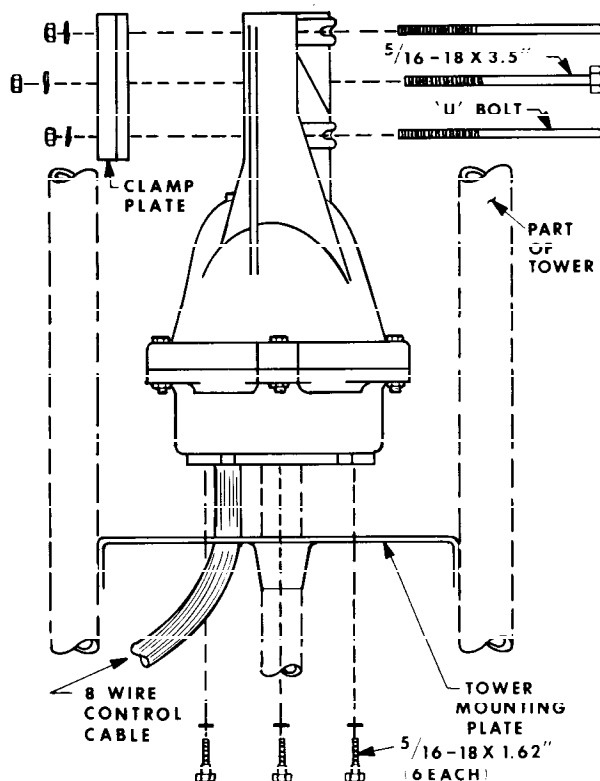

Figure 4
3. The rotator is attached to the tower plate by means of six (6) bolts and lockwashers (see Figure 4). The flat tower plate must be drilled in six (6) places using the template provided with this manual unless the tower plate is already properly drilled.
4. Tighten the six (6) bolts, but not to final tightness. Observe how the rotator turns. It must rotate in such a manner as to turn the mast concentrically to the thrust bearing.
lockwashers through the rotator and clamp plate as shown in Figure 4. The maximum mast diameter that may be used is $2\frac{1}{8}$ " O.D. We recommend $1\frac{1}{2}$ " nominal steel pipe with 1.9" O.D. in standard wall thickness of .145". For stacked arrays or very large beams, we recommend extra heavy-duty wall thickness of .200". Both steel pipes can be purchased to specification ASTM-A120.
7. Tighten the six (6) bolts carefully—to approximately 175 inch-pounds of torque.
8. Drill through the antenna mast and rotator casting, using a $\frac{5}{16}"$ drill. Locate the hole in the clamp plate that is furnished. Insert the bolt through the clamp plate, mast and rotator and tighten all bolts to 150 inch-pounds. Refer to Figure 4.